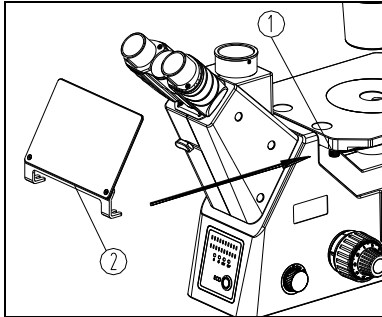

Fig. 26
(1) Loosen the two lock screw (1) of the stage. (See Fig. 26)
(2) Align the groove of filter plate (2) with the lock screw (1), and push it according to the direction shown in the figure, then tighten the lock screw (1).